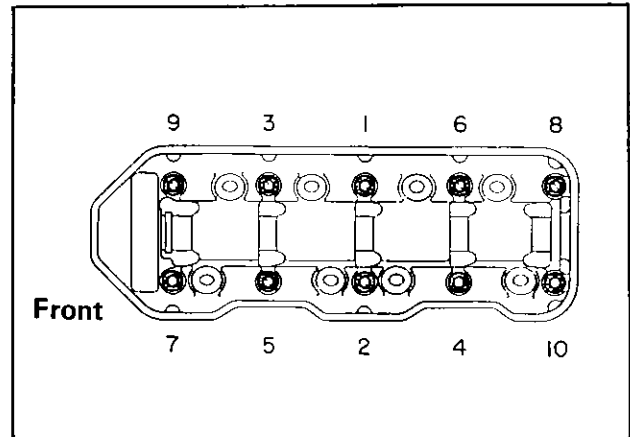

Fig. EM-81 Cylinder head tightening order
- b. Tighten in the manner shown in Figure EM-81 with the tightening torque applied is several steps.